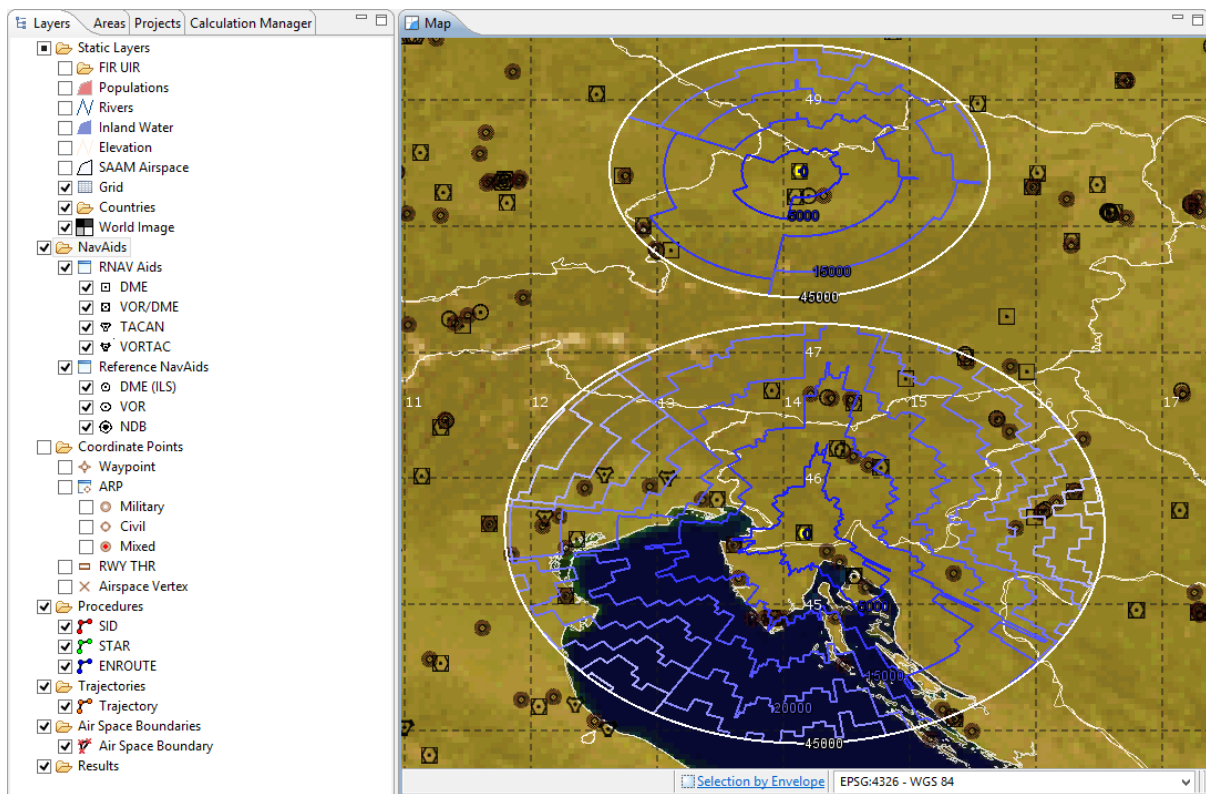

Figure 147: Coverage Calculation results
- When the results are displayed on the map, also a "Results" folder will appear on the Layers tree. You can see the layer legend if the tree nodes are expanded (Figure 147).